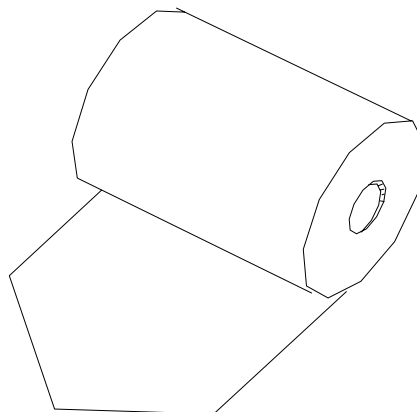

Fig. 8.5
5) Cut the end of the paper according to Fig.8.5.